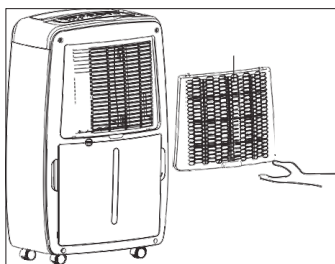

Fig. 1
1. Remove the filter holder from the dehumidifier unit (Fig. 1).